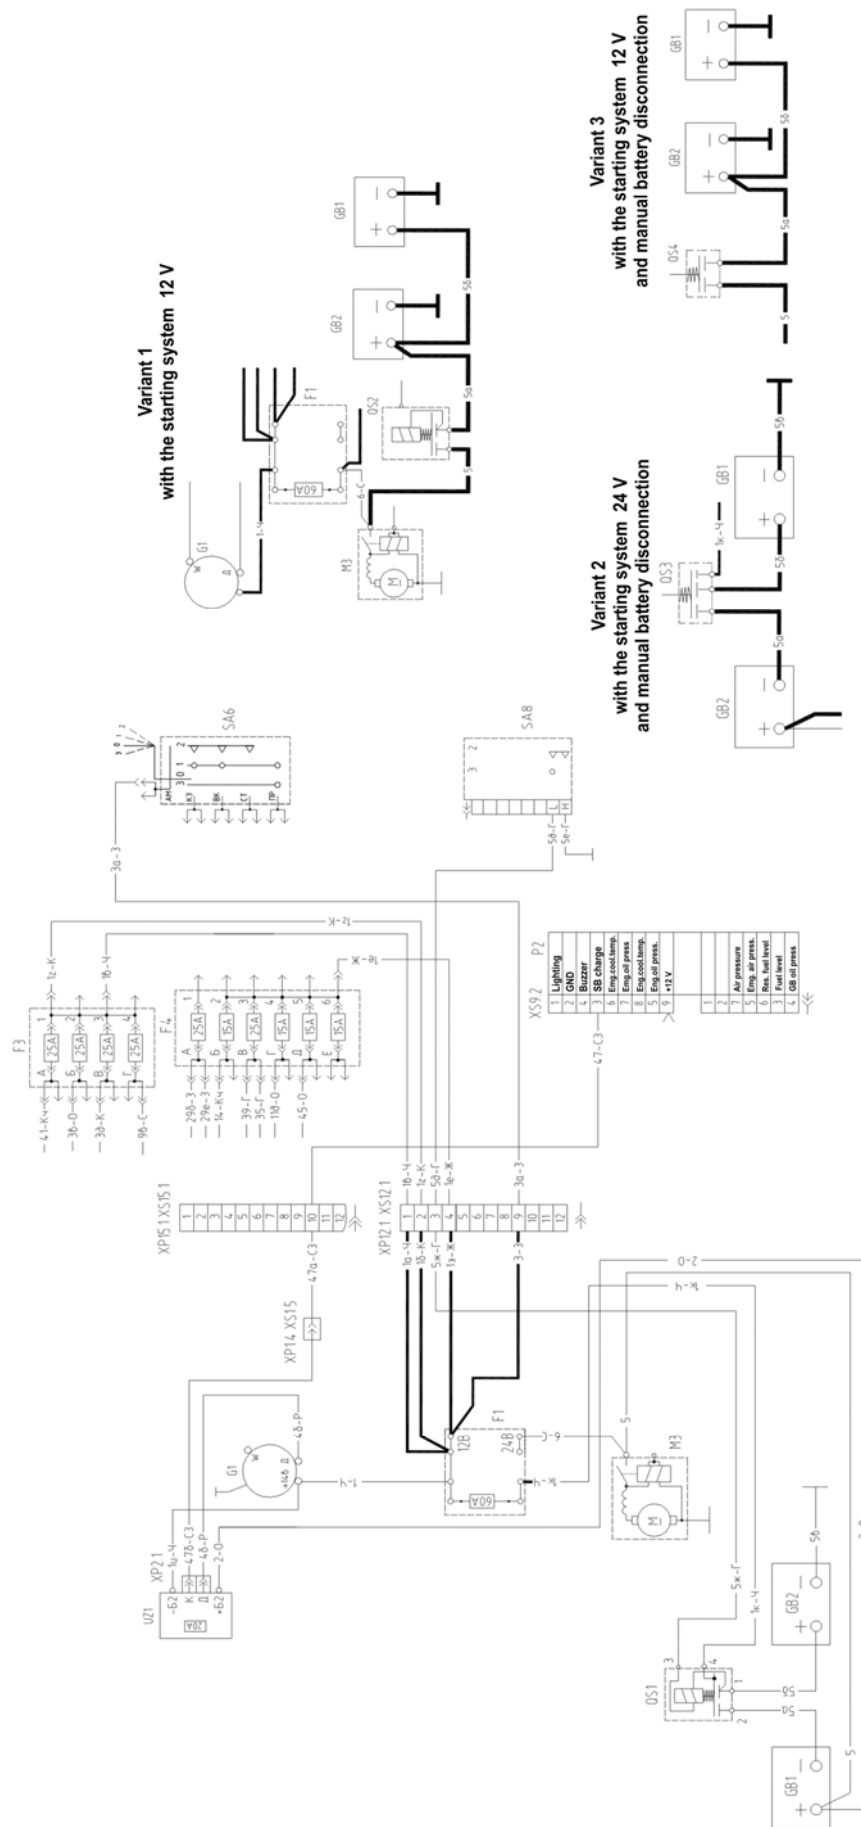
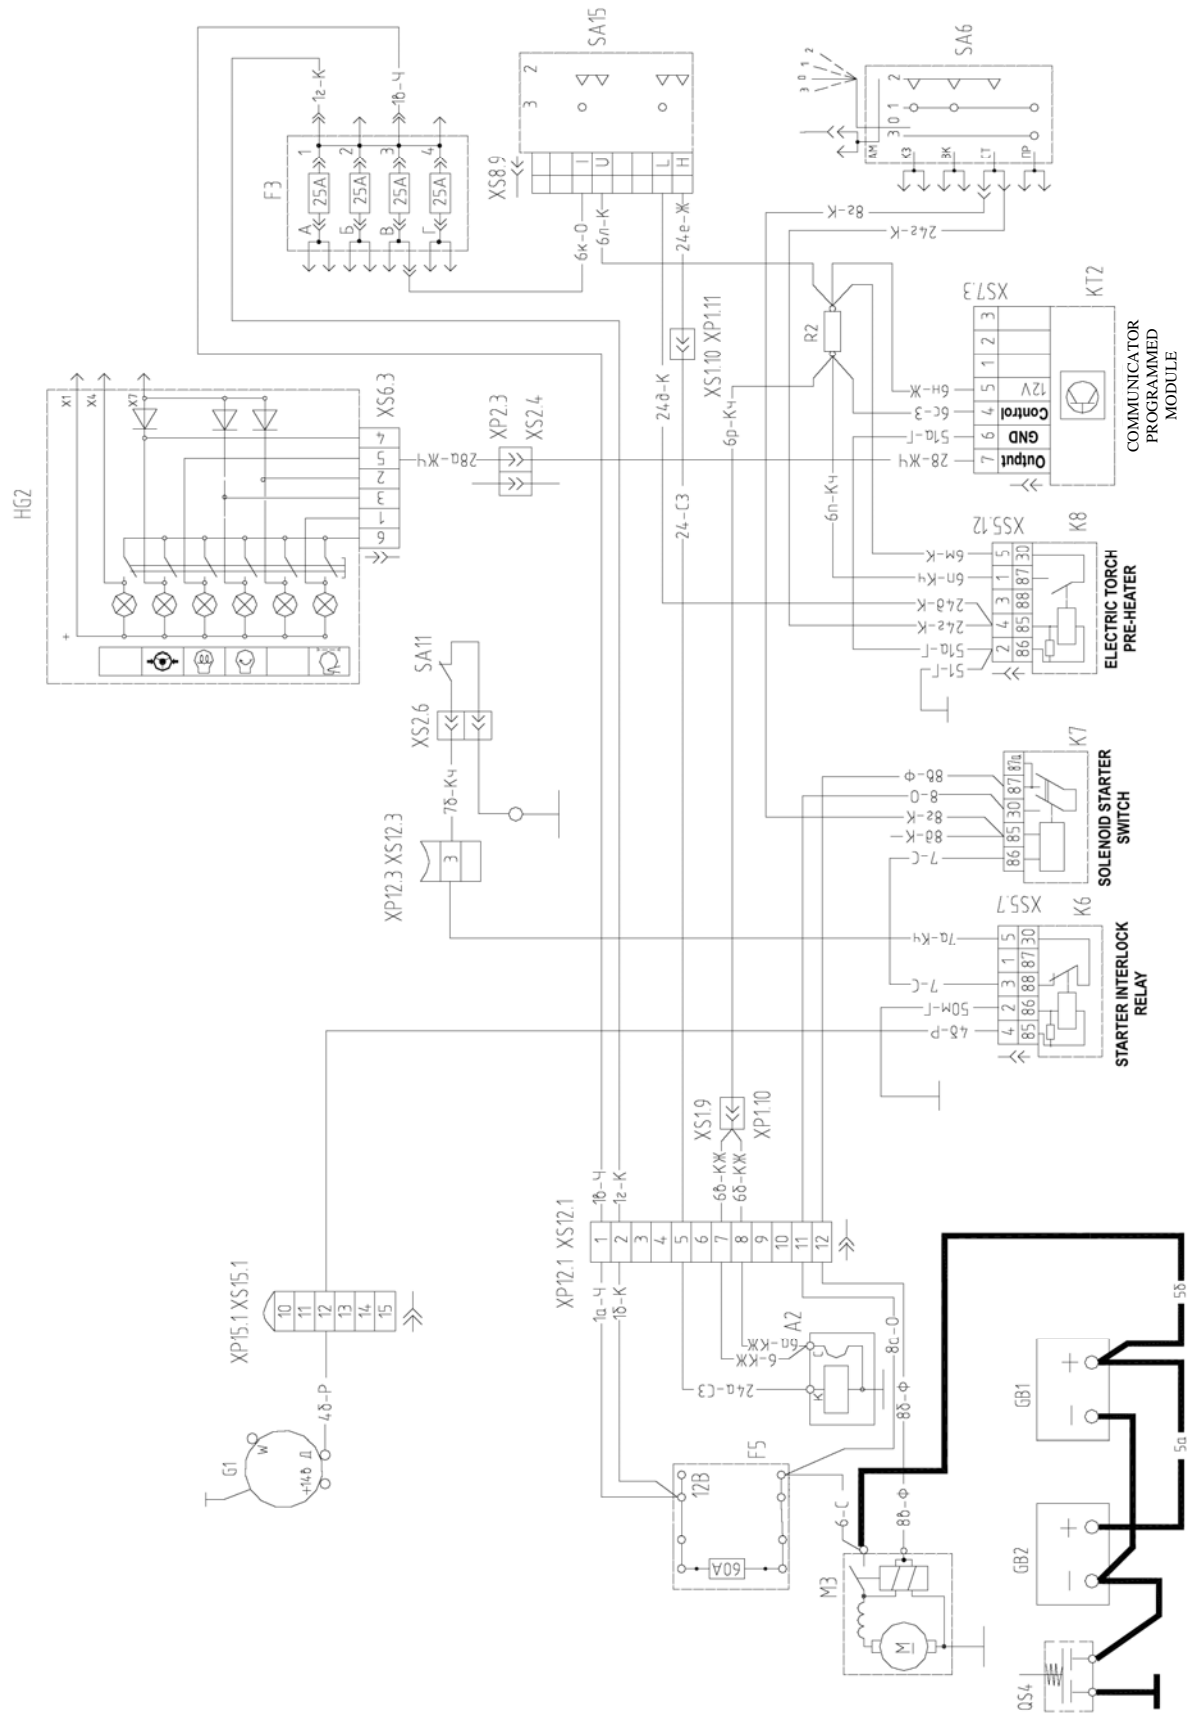
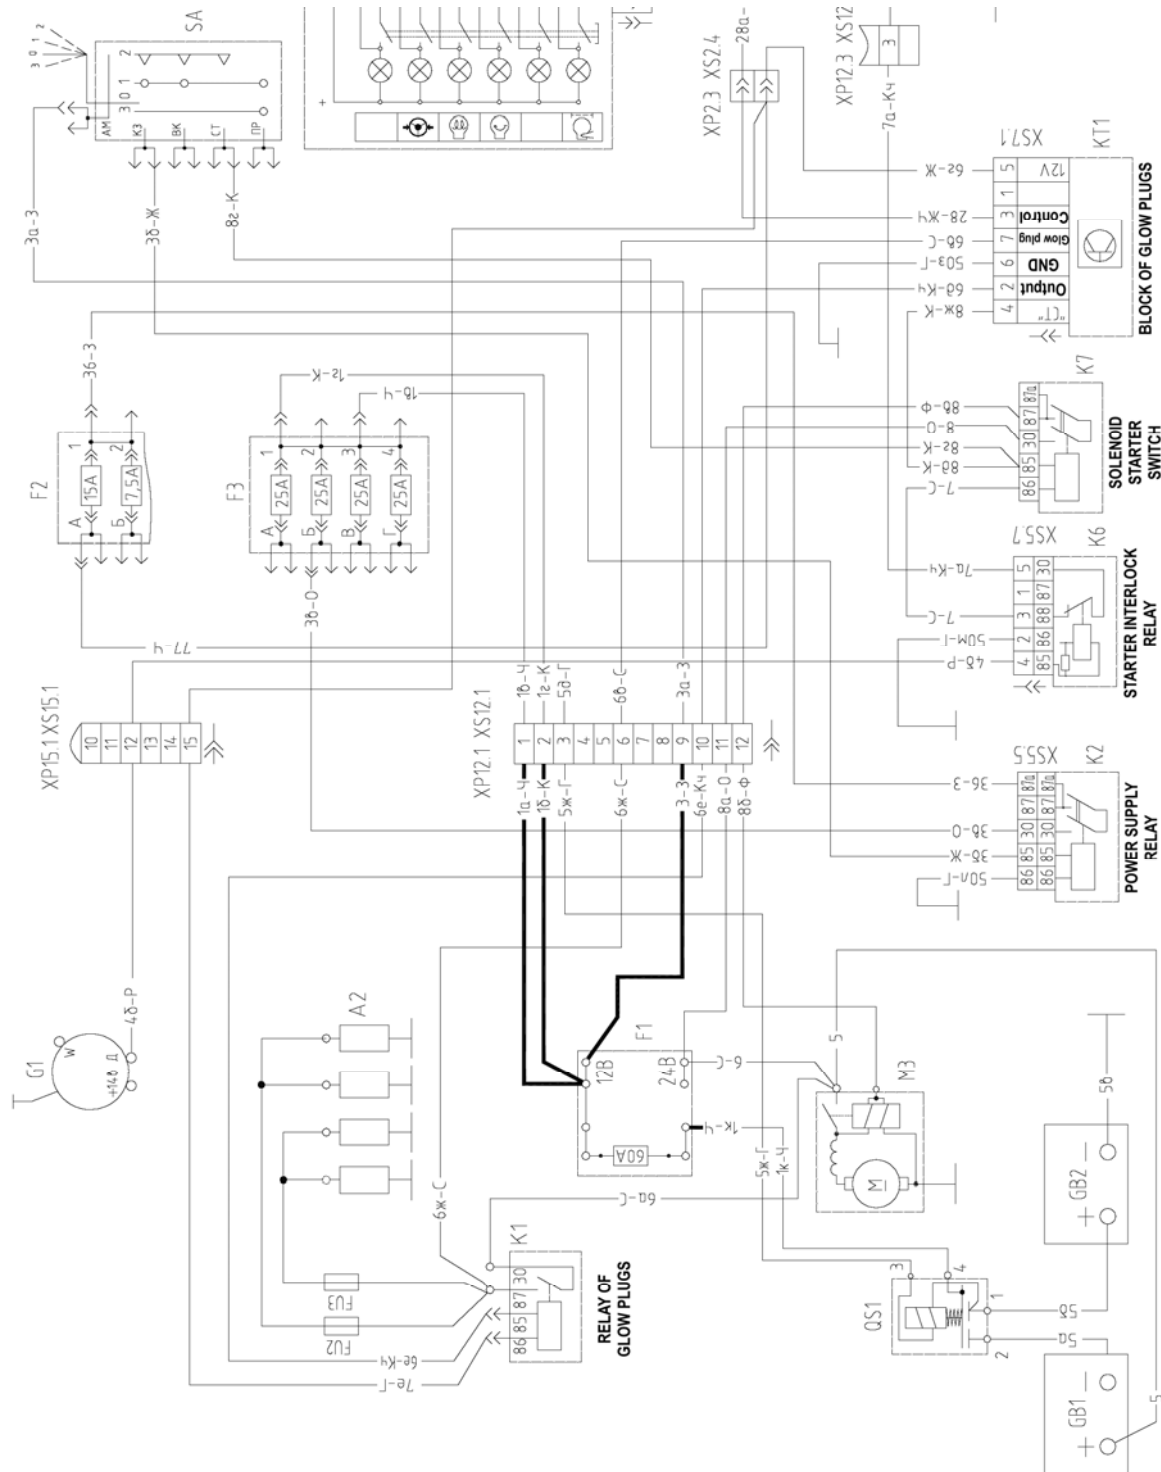

Fig. 2. Power supply system of the tractors
Fig.3. Starting system 12 V, starting aid system (electric torch pre-heater).
Fig. 4. Starting system 24 V, starting aid system (glow plugs)
- On-board power system with the rated voltage of 12 V and starting system with the voltage of 12 V and two storage batteries connected in parallel each with the voltage of 12 V (Fig. 2, variants 1, 3 and Fig. 3);
- On-board power system with the rated voltage of 12 V and starting system with the voltage of 24 V and two storage batteries each with the voltage of 12 V interconnected in parallel by means of the circuit breaker (Fig. 2, variant 2 and Fig. 4).
Fig. 2 shows the schematic of the power supply system with four versions of connection of the storage battery and ground switches (circuit breakers):
#### D. On the tractors with the power supply system with the voltage of 12/24 V (Fig. 2) and voltage converter UZ1, the left storage battery is not charged;
### **A. Starter M3 with the rated voltage of 12 V (Fig.3):**
### **B. Starter M3 with the rated voltage of 24 V (Fig. 4):**
**NOTE.** For the starting system with the voltage of 24 V (Fig. 4) use the test lamp rated at 24 V (A24-21).